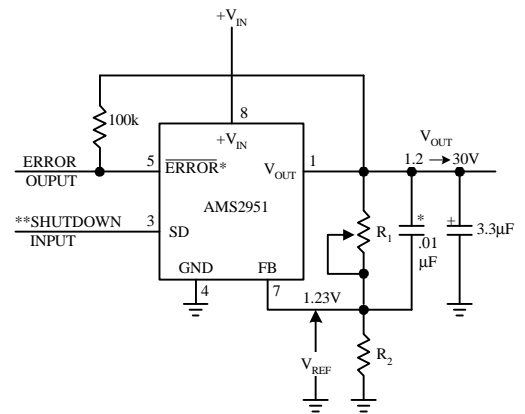

FIGURE 2. Adjustable Regulator
The AMS2951 may be pin-strapped for the nominal fixed output voltage using its internal voltage divider by tying the output and sense pins together, and also tying the feedback and V_{TAP} pins together. Alternatively, it may be programmed for any output voltage between its 1.235V reference and its 30V maximum rating. As seen in Figure 2, an external pair of resistors is required.
*When V_{IN} 1.3V the error flag pin becomes a high impedance, and the error flag voltage rises to its pull-up voltage. Using V_{out} as the pull-up voltage (see Figure 2), rather than an external 5V source, will keep the error flag voltage under 1.2V (typ.) in this condition. The user may wish to drive down the error flag voltage using equal value resistors (10 k suggested), to ensure a low-level logic signal during any fault condition, while still allowing a valid high logic level during normal operation.